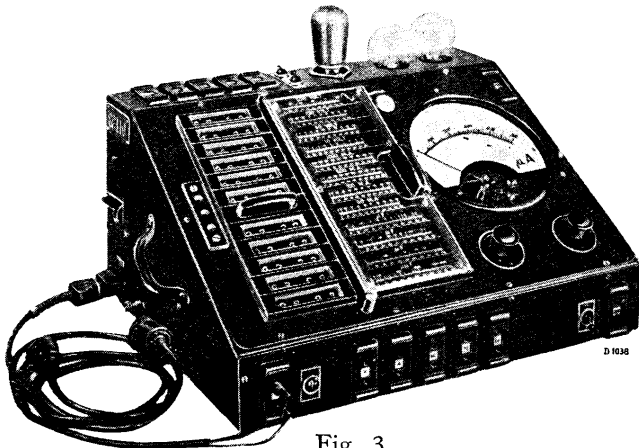

Fig. 3.
2. An output indicator. This indicator will either have to be substituted for the loudspeaker or be shunted across it according to the type of indicator used. The output indicator in the testing apparatus Type 4256 (fig. 3) is of course quite suitable.
1. Fault finding will be considerably simplified by using the universal test board shown at fig. 3. Voltages, currents, resistances and condensers can be measured. It can be used for both A.C. and D.C. measurements, prices and particulars can be obtained from Service Dept.